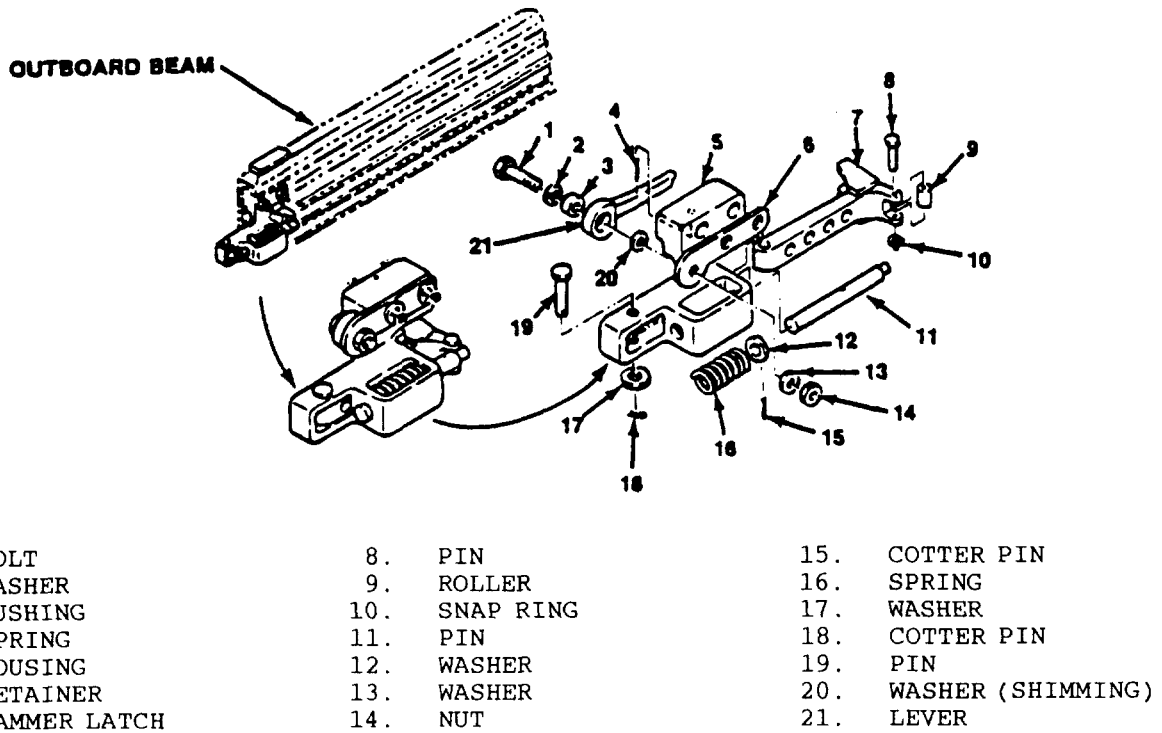

Figure 205 - Sequence Latch Assembly
- 6. Approved Repairs. Any worn damaged or broken piece parts of sequence latch assembly may be replaced using Figure 205 as a guide for parts relationship. Refer to applicable Illustrated Parts Catalog for part number identification.